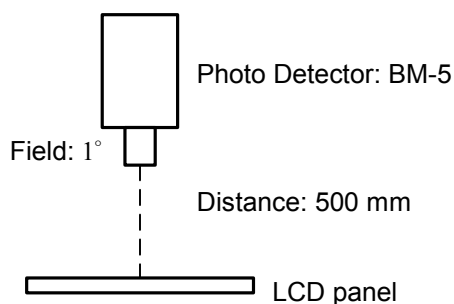

Fig. 6.1
- In the dark room around 500~1000 lx, the equipment has been set for the measurements as shown in Fig 6.1.